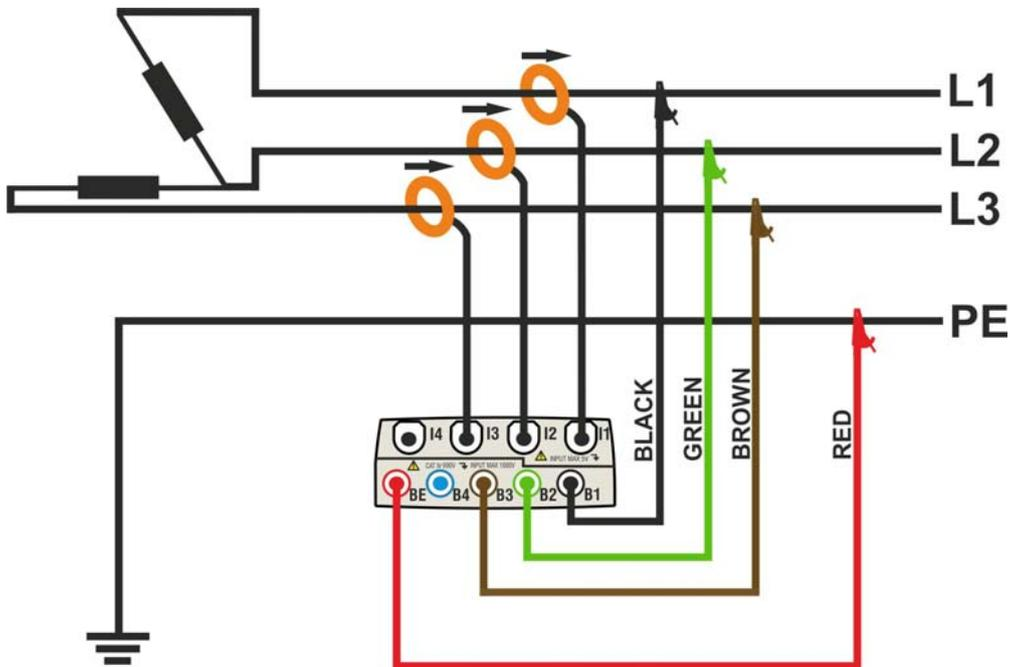

Fig. 170: Meter connection in a three phase 3POD system – ENG type
2. Connect voltage test leads on Phases L1, L2, L3 and PE cables considering the colours as shown in Fig. 170. **Verify the result “123” at display relative to a correct phase sequence indication** (see § 5.2.4.1 ) and perform the corrections if necessary.
3. Connect the transducer current clamps on Phase L1, L2, L3 cables as shown in Fig. 170 respecting the clamp’s arrow direction indicating the current standard sequence from generator to load. **On Real Time Values’ section screens (selecting a 3 wire system preliminarily) always verify the positive value of Active Power and the power factor relative to load which should be normally inductive** before starting a recording. Reverse the clamp by 180 degrees on cables in case of negative readings.